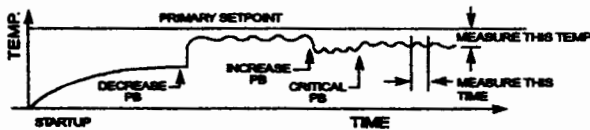

Figure 2. Oscillation Time
7. Measure the oscillation time, in minutes, between neighboring peaks or valleys (see Figure 2). This is most easily accomplished with a chart recorder, but a measurement can be read at one minute intervals to obtain the timing.